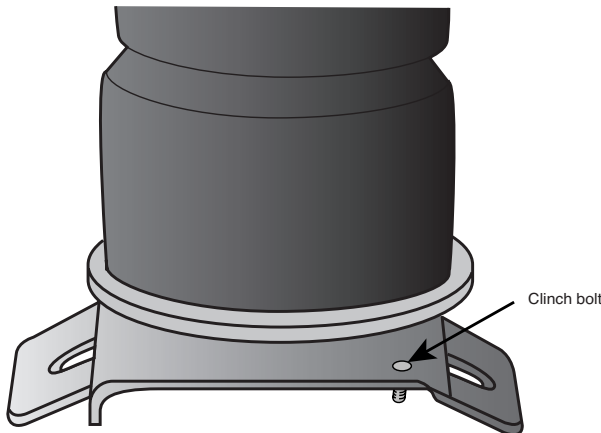
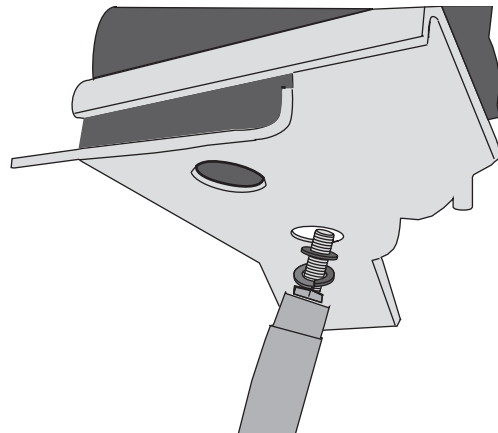

Fig. 8
Fig. 9
Be sure to install the assembly with the clinch bolt on the driver's (left) side. Refer to diagram (Fig. 8).
4. Attach the air spring to the lower bracket (Fig. 8 & Fig. 9). Secure the lower bracket (F) to the air spring (A) with two 3/8-24x7/8" hex head bolts (I), lock washers (S), and flat washers (M) (Fig. 9).